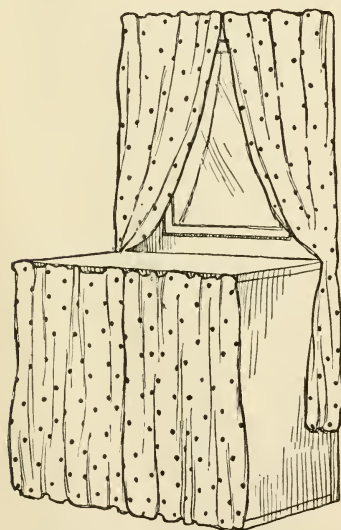

FIG. 142. — Dresser completed.
**The Dresser** shown in Fig. 142 is made out of a box the same size as the larger one used for the folding-bed.